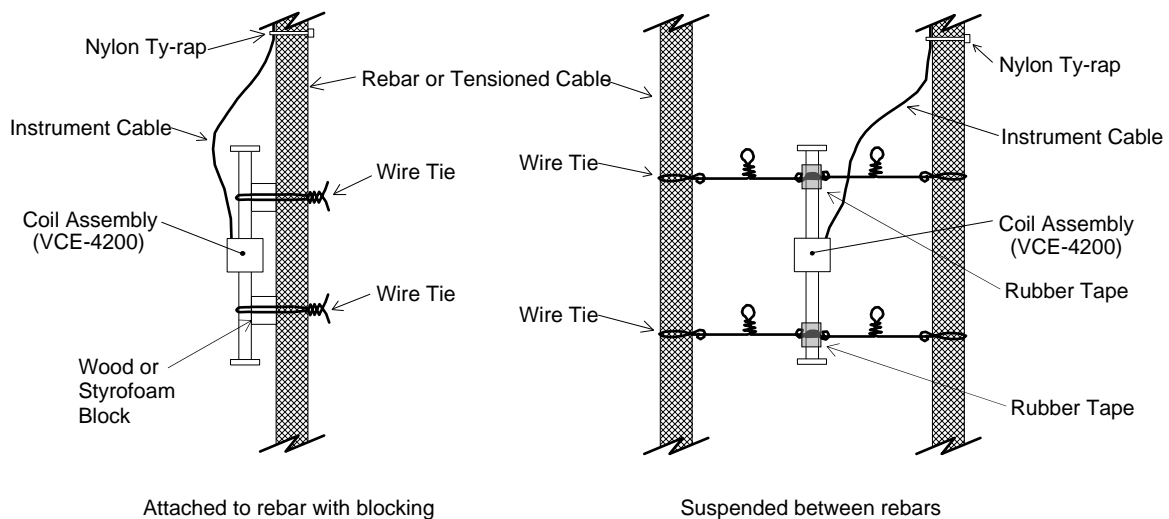

Figure 4 - Attaching Model 4200/4200HT Strain Gages to Rebar
When casting the gage directly into the structure care must be taken to avoid applying any large forces to the end blocks during installation. This is most imperative when installing the Model 4202. The models 4200, 4200HT and 4210 can be wired into position by wiring directly to the tube (see Figure 4). The wires should not be tied too tightly since rebar and/or tension cables tend to move during concrete placement and vibration. Care should be taken not to damage the cable with the vibrator. The gage can also be placed directly into the mix if it can be assured that the orientation will be correct after the gage placement.
1. **Wrap a layer of self-vulcanizing rubber tape around the gage in the two places shown in Figure 4 (around the tie points). The rubber layer serves as a shock absorber, dampening any vibrations of the suspension system. Sometimes, without the rubber layers, as the tie wires are tightened the resonant frequency of the tie wires interferes with the resonant frequency of the gage. This results in unstable readings or no readings at all. This effect disappears once the concrete has been placed.**